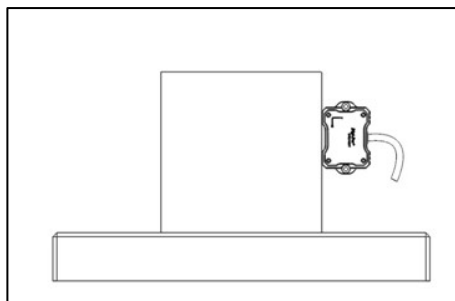

Figure 37. Tilt Sensor Module Position of Calibration Step 3
9. For **DWL5000XY** model, repeat step 3 to step 8. Please locate the sensor module in following positions (refer to Figure 37 to Figure 42) respectively.